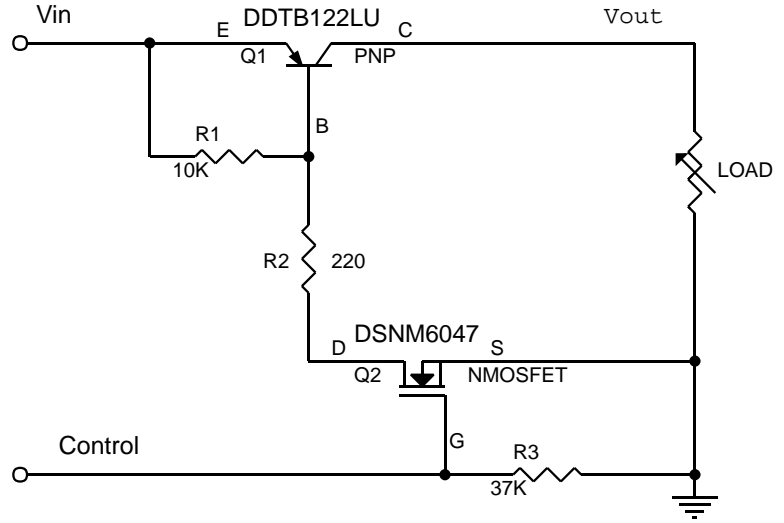

Fig 20 : Circuit Diagram
- PNP Transistor (DDTB122LU) and N-MOSFET (DSNM6047) with gate pull-down resistor integrated as one in LMN400B01 can be used as a discrete entity for general application or as an integrated circuit to function as a Load Switch. When it is used as the latter as shown in Fig 20, various input voltage sources can be used as long as it does not exceed the maximum ratings of the device. These devices are designed to deliver continuous output load current up to a maximum of 400 mA. The MOSFET Switch draws no current, hence loading of control circuit is prevented. Care must be taken for higher level of dissipation while designing for higher load conditions. These devices provide high power and also consumes less space. The product mainly helps in optimizing power usage, thereby conserving battery life in a controlled load system like portable battery powered applications. (Please see Fig. 21 for one example of a typical application circuit used in conjunction with voltage regulator as a part of power management system)